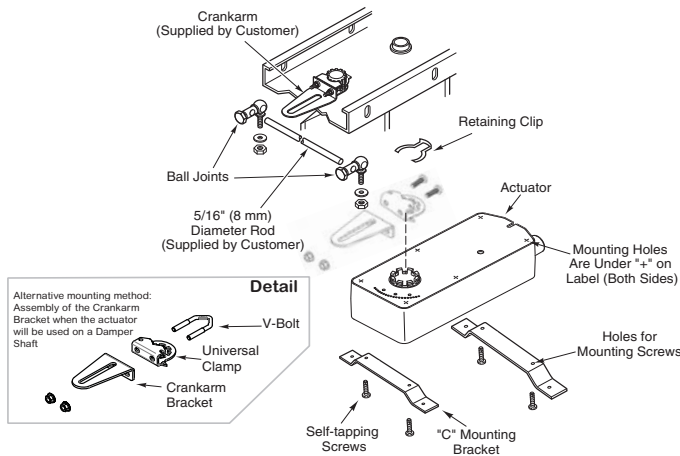

Figure-6 Installation of AM-693-R Damper Linkage Kit with Crankarm (used in conjunction with the AM-687 or AM-688 universal clamp).
5. Locate the pre-drilled mounting holes on the actuator label that are covered by a white "+" sign. See Figure-6.
7. Use the #10 self-tapping screws to secure the two "C" brackets to the actuator. See Figure-6.